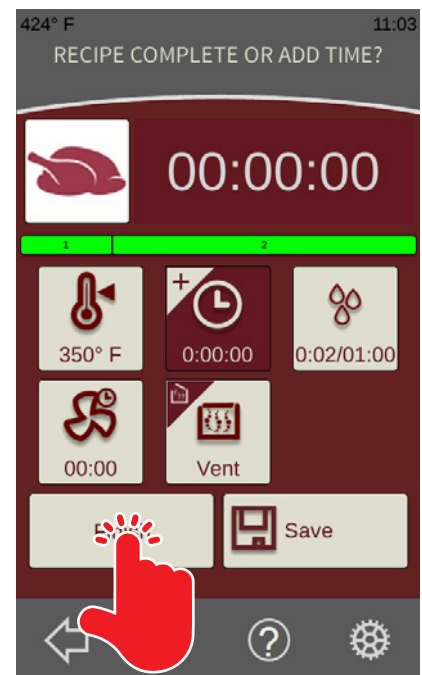

Fig. 48
3. If the product is finished, touch the Finish button (Fig. 48) on the controller to exit the *Recipe Running Screen*.